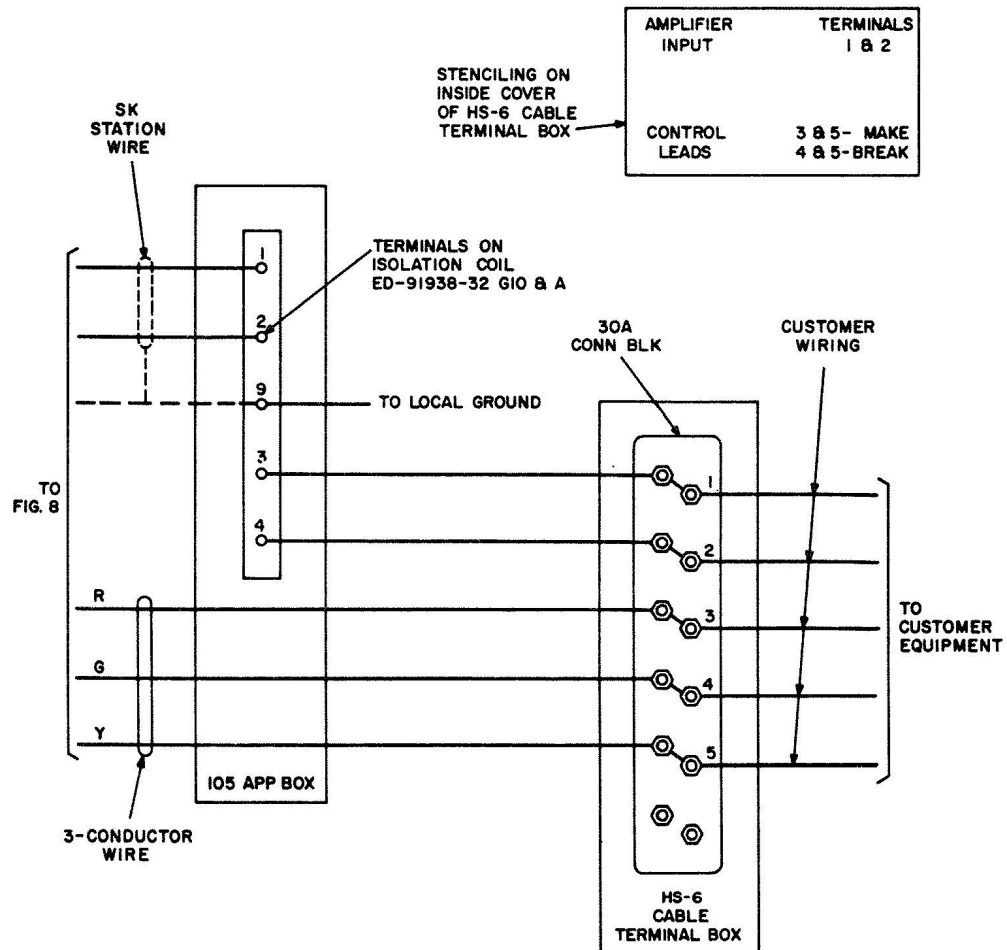

Fig. 9 — Connections — Isolation Coil and Connecting Block
1.02 This section is reissued to furnish ordering information, correct listing of isolation coil in Fig. 9, and expand the identification of the three individual components.
2.06 In addition to the equipment listed above an ED-91938-32 G10 & A isolation coil, 105 APP. box, and an HS-6 cable terminal box are needed for complete installation. (See Fig. 9.) ↵
3.04 The 105 apparatus box housing the isolation coil and the HS-6 cable terminal box housing the 30A connecting block (Fig. 9) should be mounted near the customer equipment or where specified by local requirements and instructions.
4.02 Fig. 9 shows the termination of the SK station wire on the isolation coil (ED-91938-32 G10 & A or equivalent) housed in a 105 apparatus box. Also shown are the termina-
4.03 Fig. 9 shows suggested stenciling for the 30A connecting block and inside the cover of the HS-6 cable terminal box. This will assist the customer in making connections to the output and control leads.
4.04 Place straps between the terminals of the 30A connecting block as shown in Fig. 9 so the customer may make connections to the terminals on the right side of the connecting block. This will enable the customer to make terminations without crossing over or disturbing telephone company connections.
6.01 *The connection of customer owned equipment to the connecting block (Fig. 9) is the sole responsibility of the customer and shall not be attempted by Telephone Company personnel.*